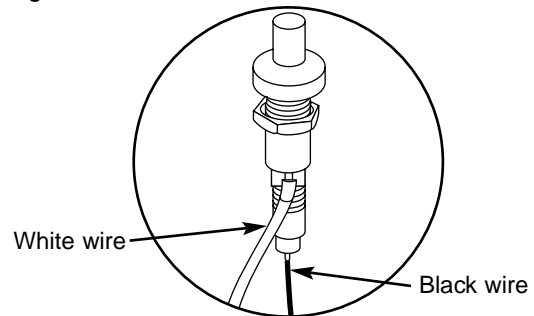

Figure 10
9. Disconnect white and black wire from each igniter. Figure 10.